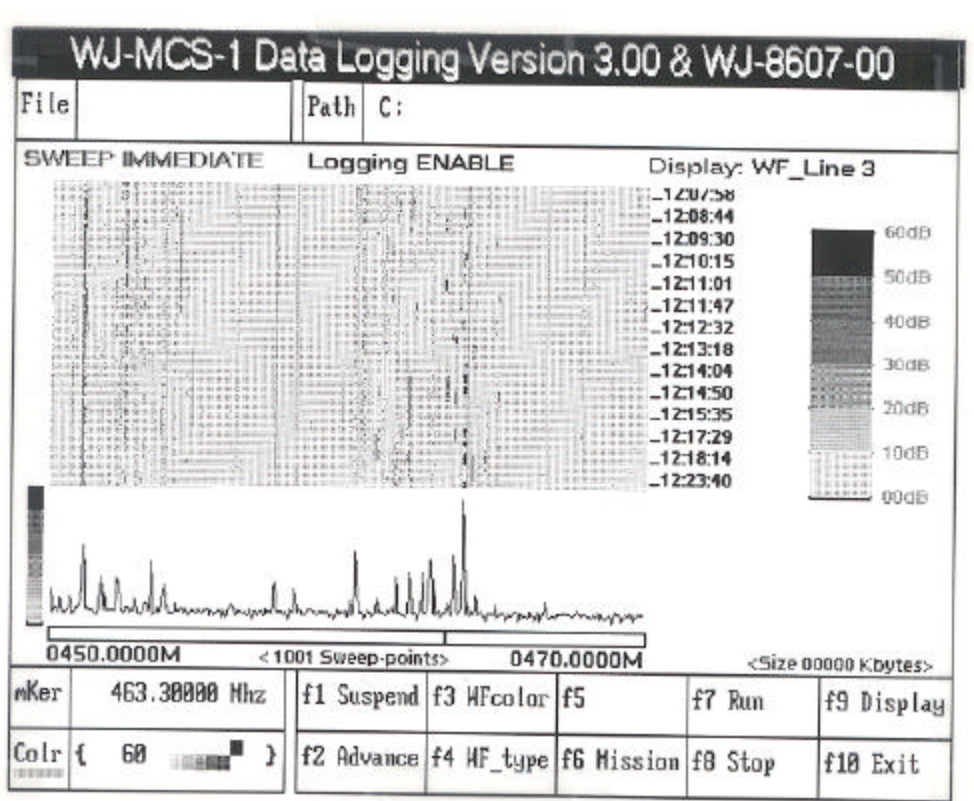

Figure I-29. DATA LOGGING WF_Line 3 Display
3. "WF_Line 3" - (Waterfall Line 3, shown in **Figure I-29**) provides a similar display to those of WF_Line 1 and WF_Line 2 in that the three-dimensional display is the same. The two-dimensional display uses a line format to connect the peaks of the signal amplitude to give a line graph type display. As in the previous two WF_Line displays, the two-dimensional display is cleared prior to each sweep, while the three-dimensional display retains sweep data.